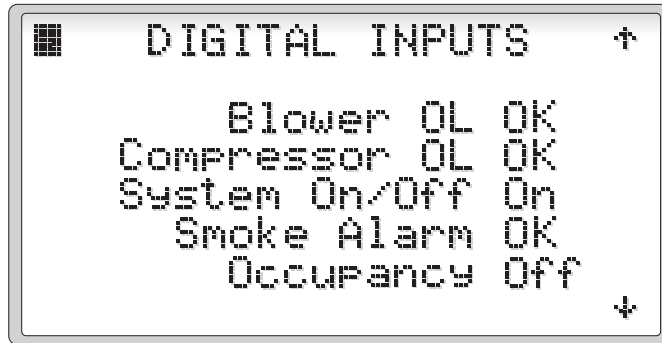

Figure 48
2.3.3.6.1 Digital Inputs (Binary) (Figures 48 and 49)